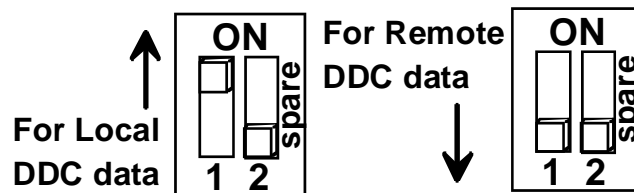

Figure 6- Configure the XTENDEX for Local Monitor DDC Data Transfer
2. Move the #1 slide switch on the front of the Local Unit up to "ON" (see Fig. 6).